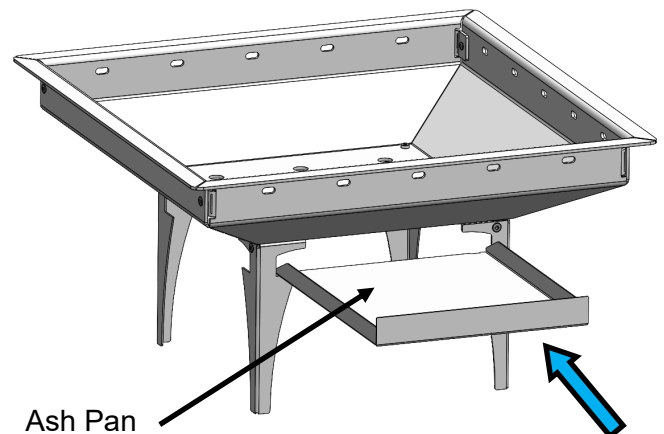

Fig. 4
- Ensure the ash pan slots between the notches within the legs (See Fig. 4.)